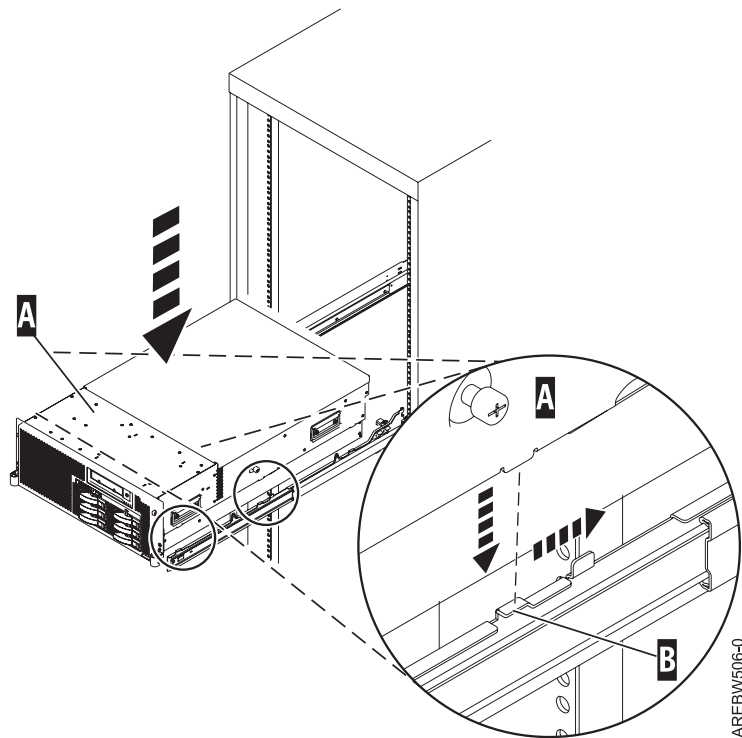

Figure 28. Place system onto the rails
9. Extend the inner rails by pulling the rails out. They should be extended from the frame like the rails shown in Figure 28.
10. Using three people, grasp the two handles located on each side of the system drawer, and place the system onto the inner rail as shown in Figure 28.